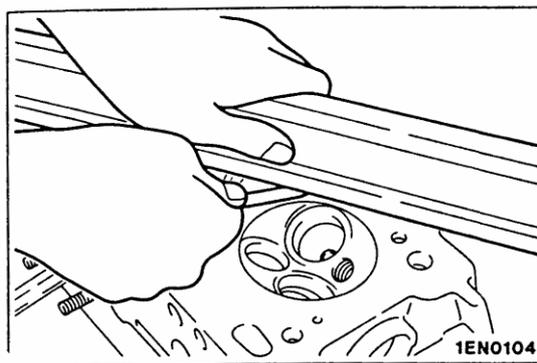

Fig.4-78
- (1) Before cleaning the cylinder head, check it for water leaks, gas leaks, cracks, and other damage.
- (2) Remove all oil, watery scale, sealant and carbon.after cleaning the oil passages, blow air through them to verify that they are not blocked.
- (3) Check for distortion in the cylinder head gasket surface using a straight limit, grind the gasket surface to specification, see Fig.4-78.